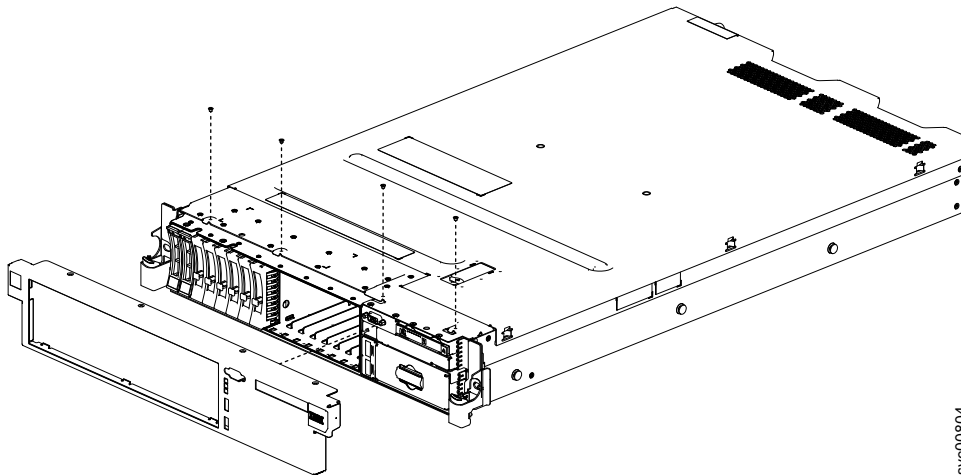

Figure 68. Replacing the SAN Volume Controller 2145-DH8 bezel
2. Insert the tabs on the bottom of the bezel into the slots on the underside of the chassis, and attach it with the screws, as shown in Figure 68 on page 84.